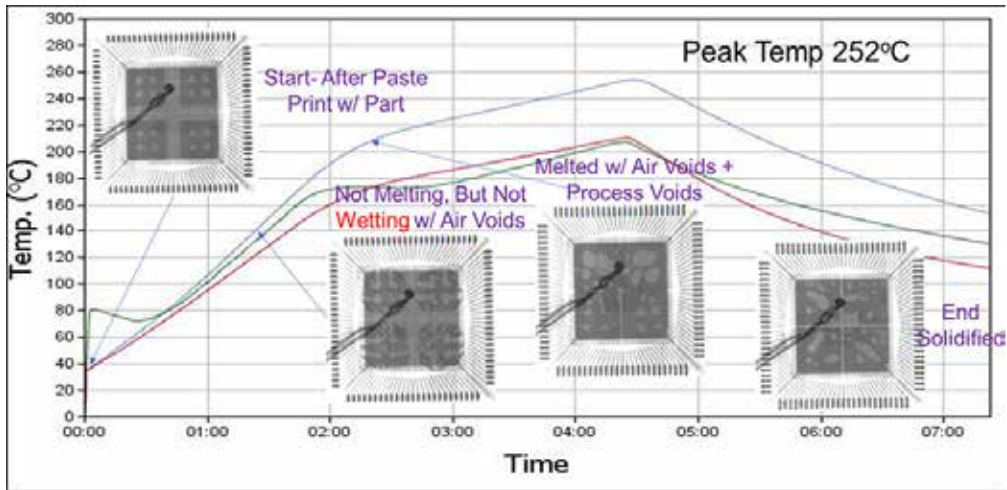

Figure 5a. LF-B solder paste x-ray images at different times during simulated SMT reflow on MLF-100 devices.
**FIGURE 5A** shows the LF-B solder paste snapshot x-ray images at different times during simulated SMT reflow on MLF-100 devices.